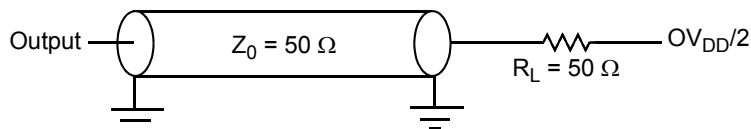

Figure 32. AC Test Load for the JTAG Interface
- All outputs are measured from the midpoint voltage of the falling/rising edge of t_{TCLK} to the midpoint of the signal in question. The output timings are measured at the pins. All output timings assume a purely resistive 50-Ω load (see Figure 32). Time-of-flight delays must be added for trace lengths, vias, and connectors in the system.
- The symbols used for timing specifications follow the pattern of $t_{\text{(first two letters of functional block)(signal)(state)(reference)(state)}}$ for inputs and $t_{\text{(first two letters of functional block)(reference)(state)(signal)(state)}}$ for outputs. For example, t_{JTDVXH} symbolizes JTAG device timing (JT) with respect to the time data input signals (D) reaching the valid state (V) relative to the t_{JTG} clock reference (K) going to the high (H) state or setup time. Also, t_{JTDVXH} symbolizes JTAG timing (JT) with respect to the time data input signals (D) went invalid (X) relative to the t_{JTG} clock reference (K) going to the high (H) state. Note that, in general, the clock reference symbol representation is based on three letters representing the clock of a particular functional. For rise and fall times, the latter convention is used with the appropriate letter: R (rise) or F (fall).